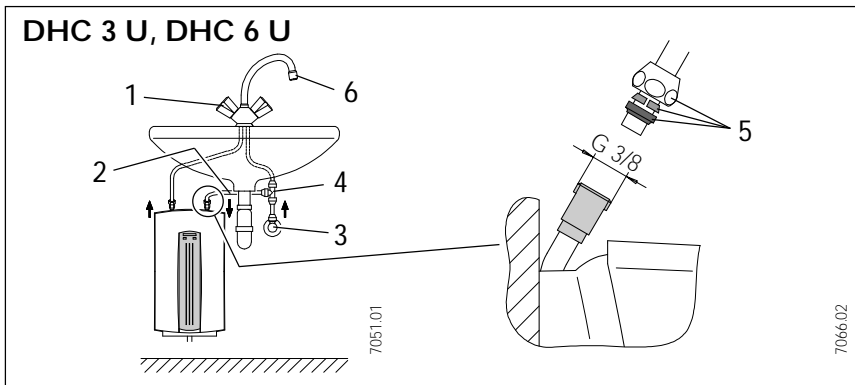

Fig. 10
**An example of installation with conventional pressure fitting** (Fig. 10).